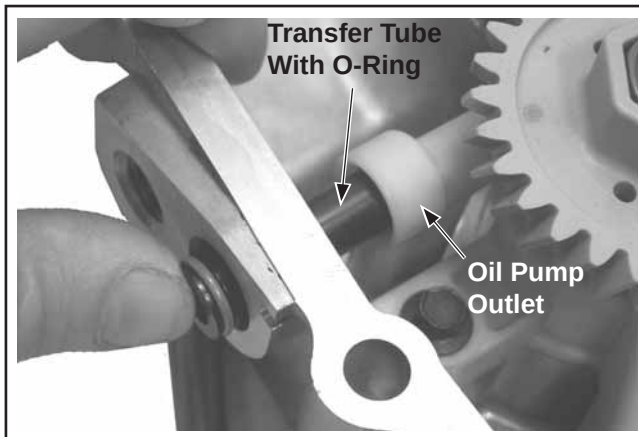

Figure 10-20. Installing Oil Pump Outlet Tube.
2. Install the transfer tube with the O-Rings. Push in until seated into the outlet of oil pump. Make sure the inner O-Ring is not unseated or damaged when installing. See Figure 10-20.